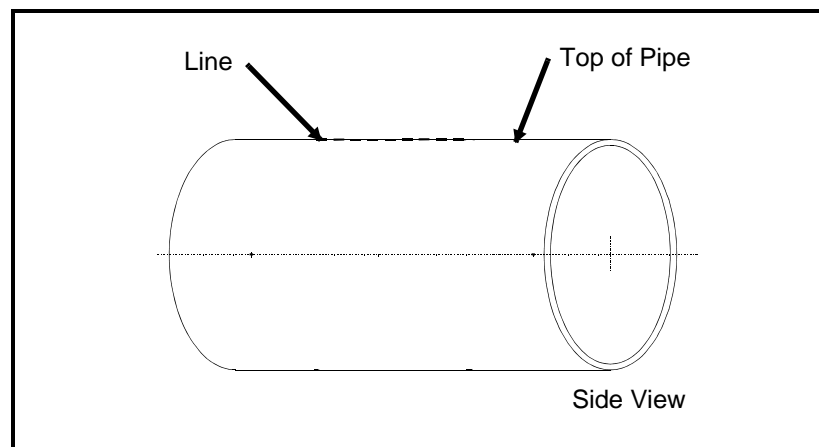

Figure 1-16: Drawing Line Parallel to Pipe Axis
4. Find the top of the pipe and use a level to draw a line parallel to the pipe's axis, as shown in Figure 1-16 below.